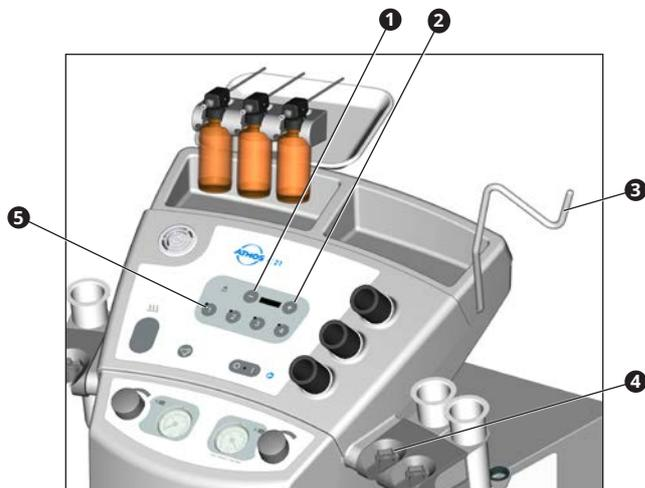

Fig. 13. Light package 2-channel with 2 or 4 channels:
- Remove the light guide from the holder (❷, fig 13) or the headlight from the headlamp suspension (❸, fig 13).
- ☞ You can manually switch on the light source with the buttons 1 to 4 (❸, fig. 13) .
- Press the button ❶ (fig.13), to reduce the brightness or press ❷, to increase the brightness.